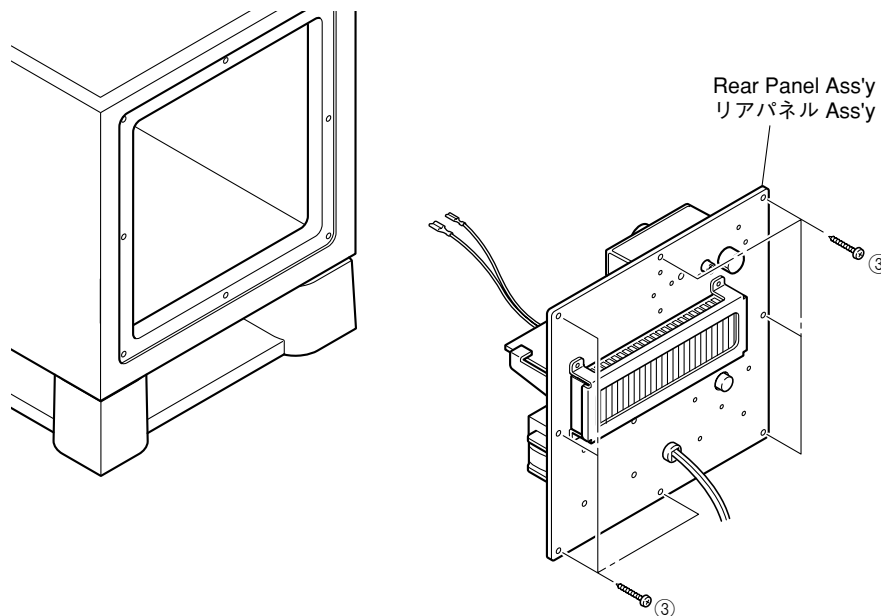

Fig. 2
- Remove 8 screws (③). (Fig. 2)
* Screws (③) are identified with arrow marks (◀).
- Pull out the rear panel ass'y. (Fig. 2)
- ③のネジ8本を外します。(Fig. 2)
- リアパネルAss'yを引き出します。(Fig. 2)